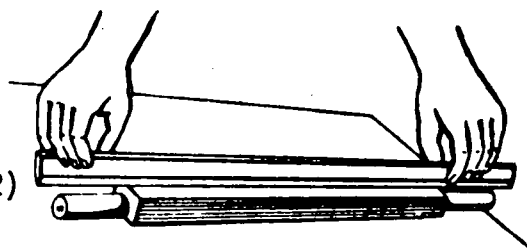

Fig. 2
- b) Place the straight edge lengthwise on the axle (Fig. 2)